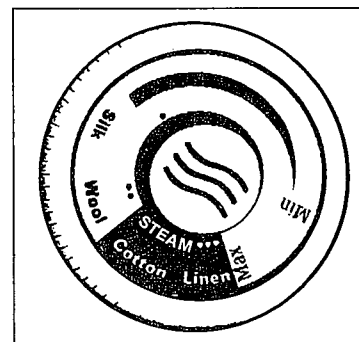

Figure 9
1. Set Temperature Control Dial (on Iron) to desired setting (See Figure 9 and "Ironing/Steaming Guide" for more information). For steam, set Temperature Control Dial to highest setting marked "STEAM ●●●." Allow Iron to reach chosen temperature. Ready Light will turn off when the Iron has reached the chosen temperature.